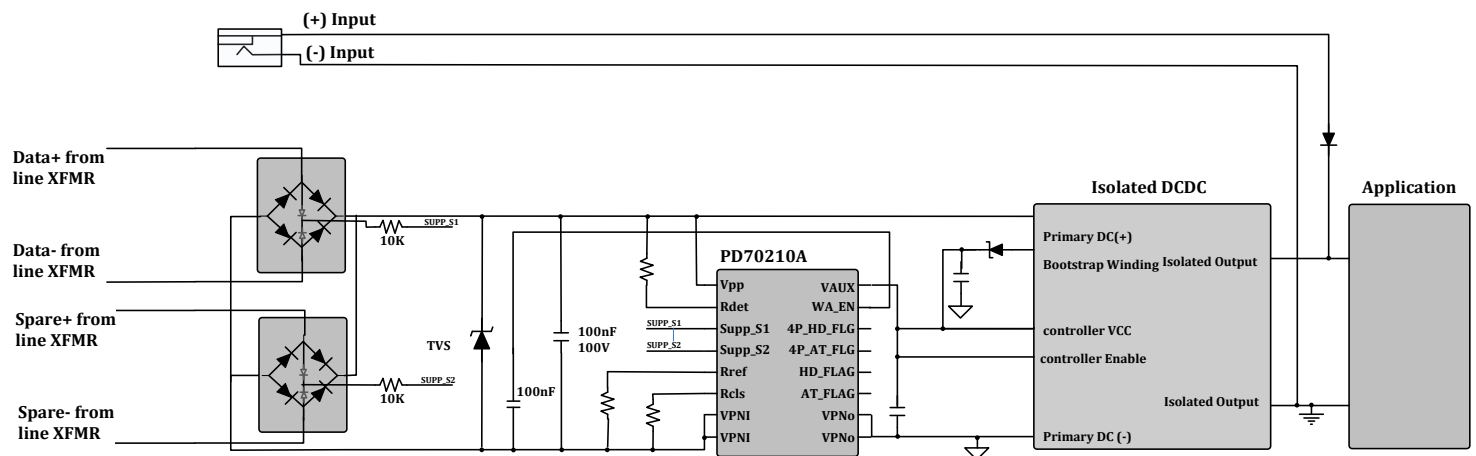
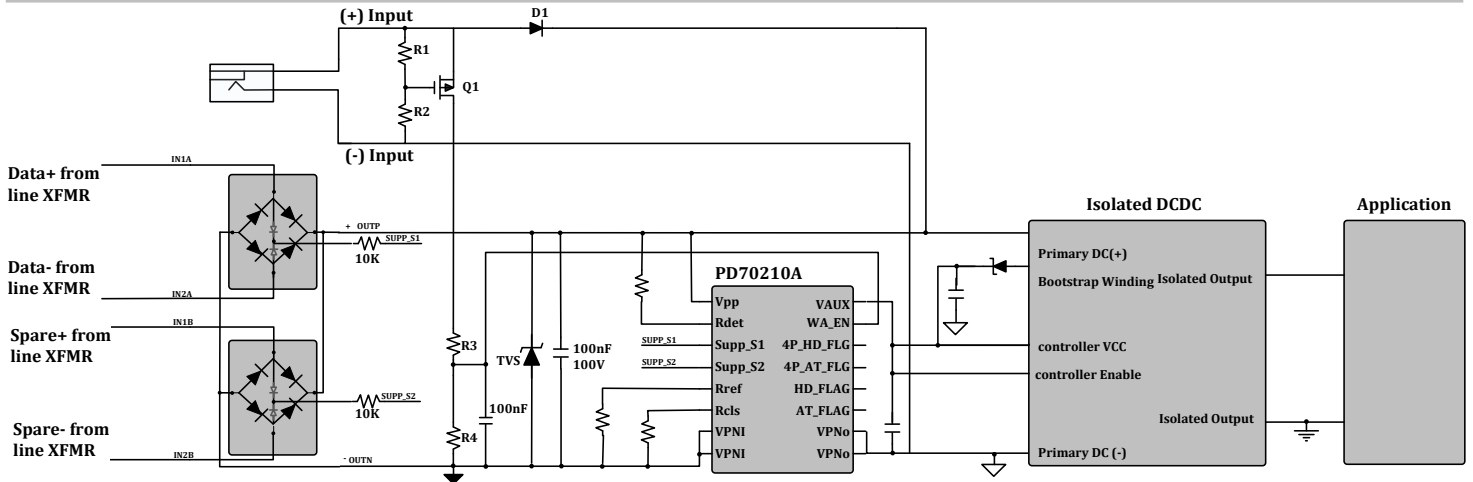

Figure 4: External Power Input connected to Application supply Rails
Figure 5: External Power Input connected to PD70210A Output
The Peripheral d devices are presented in Figure 4 and Figure 5.
PD applications utilizing PD70210A IC may be operated with an external power source (DC wall adaptor). There are two cases of providing power with an external source, the cases are presented in Figure 4 and Figure 5.
- 1) External source connected to application's low voltage supply rails. External source voltage level is dependent on DCDC output characteristics. Described in Figure 4
- 2) External source connected to PD device output connection toward the application (VPP to VPNI_{OUT}). External source voltage level is dependent on DCDC input requirements. Described in Figure 5
External source connected to PD device output (Figure 5)